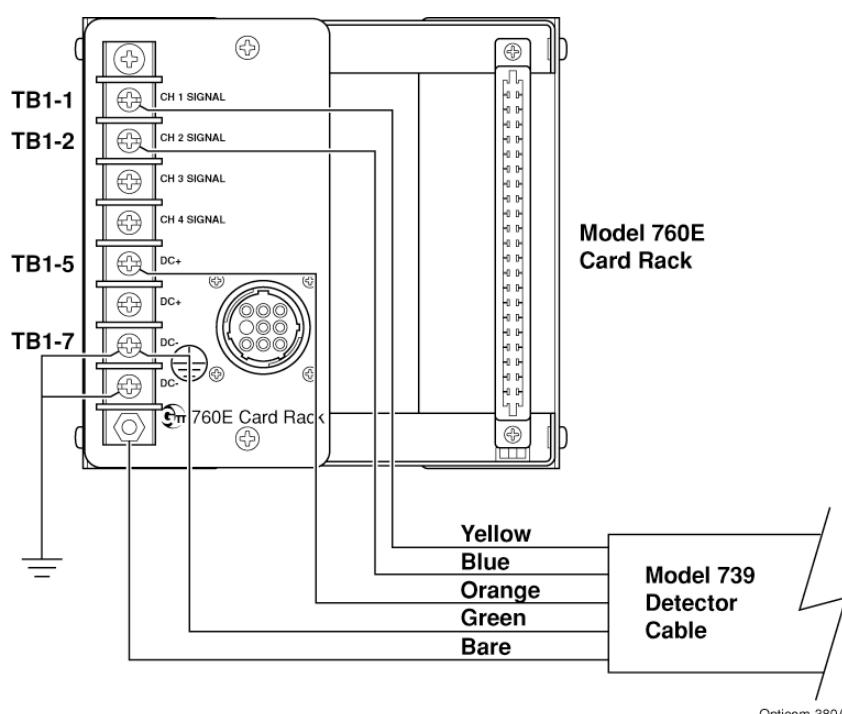

Figure 5-8. Detector Connections for Dual Channel
6. Connect the bare wire to the threaded terminal at the bottom of the terminal strip. See Figure 5-8.
7. Connect the yellow wire to one of the channel terminals listed below (see Figure 5-8):